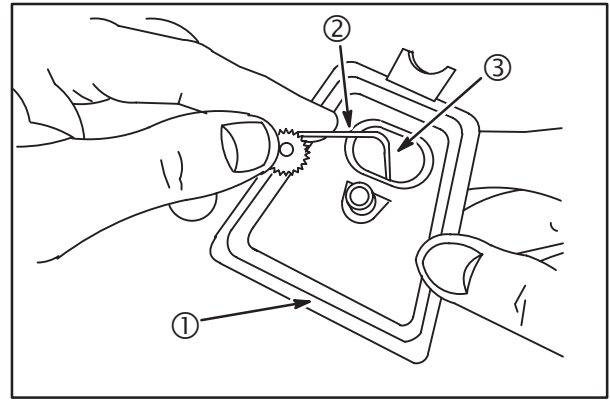

Fig. 7
If the fiber disc valve (3) is stuck or binding, the breather assembly (1) must be replaced. A **0.045" (1.14 mm)** wire gauge (2) should not enter the space between the fiber disc valve and body, **Fig. 7.**